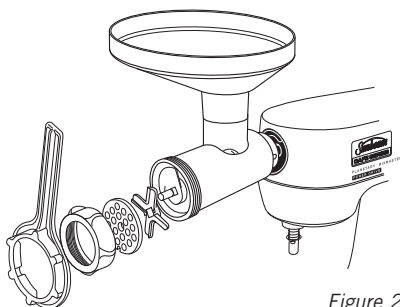

Figure 2
7. Once the Multi-Food Grinder attachment is in place, tighten the fastening dial using the spanner to ensure all elements are securely in place. See figure 2.
8. Place the food catcher underneath the fastening dial for mince collection and the feeder tray on top of the Multi-Food Grinder chute. See figure 2. Turn the speed dial clockwise to commence grinding. Operate at speeds no greater than 1. Refer to the mincer manual for further operating instructions.